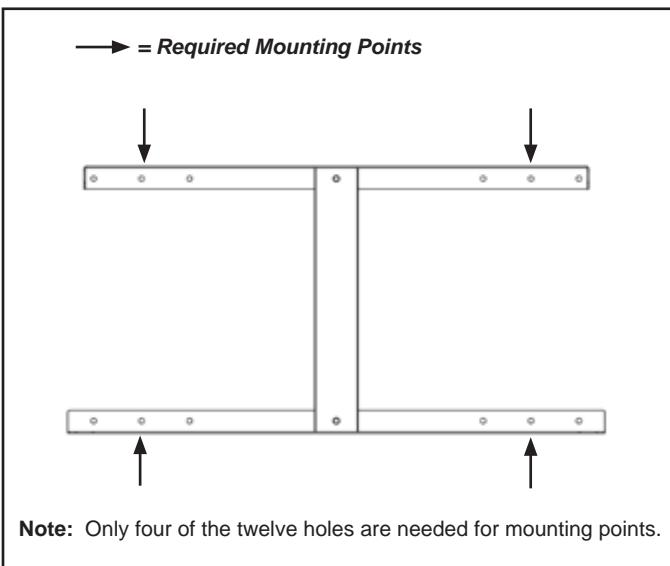

Figure 5 Mounting Bracket
- Mark four locations on the wall that correspond to the four required mounting points in the bracket. See Figure 5.